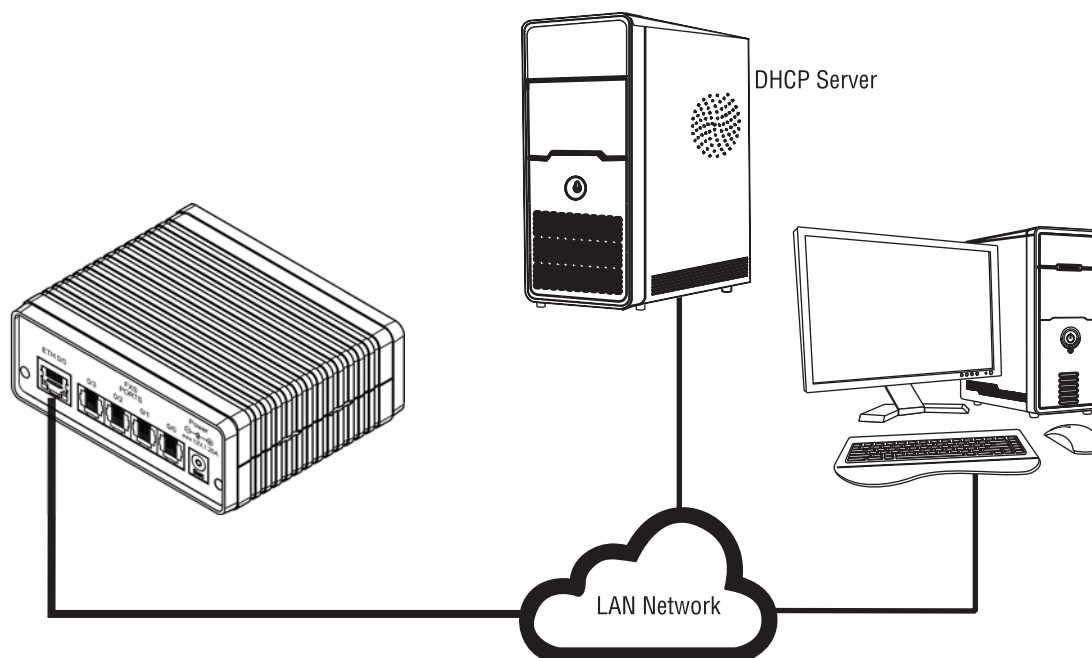

Figure 10. Connecting SmartNode device and PC to a LAN with DHCP server.
2. The SmartNode device is connected to a local area network (LAN) that has a DHCP server running which assigns an IP address to the SmartNode device (see figure 10). Using the SN Discovery tool, the SmartNode device's IP can be determined.